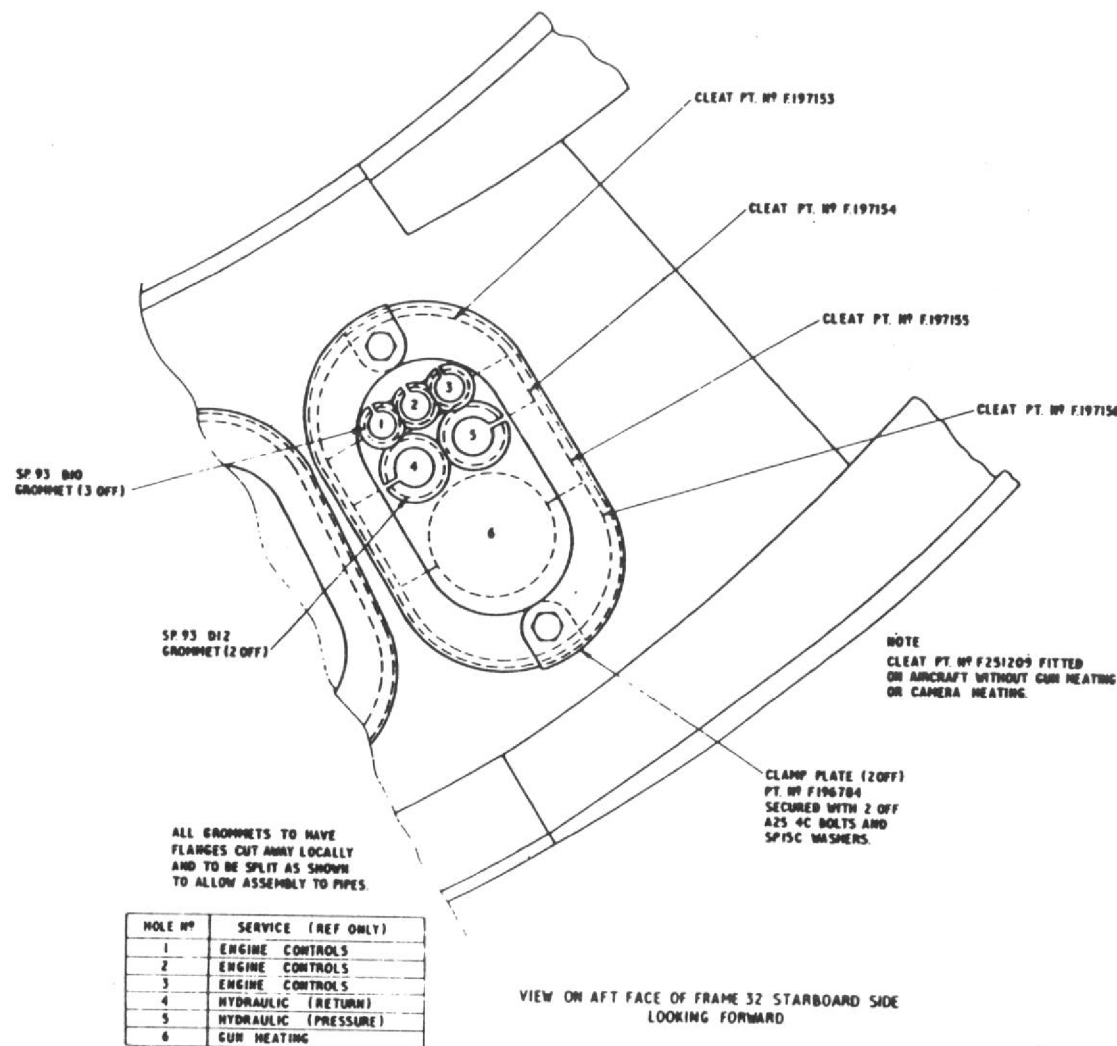

Fig.6A Assembly of clamp plates and cleats frame 32 (STI/Hunter/395)
- ◀ (2) Before engine installation, examine the pipes and clamp assembly located at the starboard lower aft face of frame 32 (fig.6A) for signs of pipe chafing, possibly caused by deterioration of the grommets or fracture of the pipe cleats. Renew any unserviceable pipes, cracked cleats or deteriorated grommets. Replacement grommets are to be Part No. SP 93, as specified in fig.6A, prepared by cutting away the flanges locally and splitting (as shown). After reassembling the grommets and cleats, check that adequate clearance exists between the pipes and controls (STI/Hunter/395 refers).
- (3) The accessories gearbox drive shaft universal couplings must be lubricated in accordance with the instructions given in *Accessories gearbox universal drive couplings* in this Chapter before the engine is installed.
- (4) When checking the accessories gearbox drive coupling, hold the spring housing of the engine coupling clear and torque load the drive shaft locknut as specified in A.P.101C-0111-16, Sect.4, Chap.1, para.15. Release the spring housing and ensure that the locking sleeve teeth are in positive engagement with those of the coupling nut. ▶